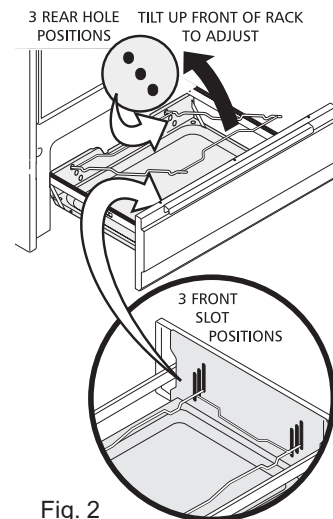

Fig. 2
4. Position rack by tilting front of rack and pulling rack out from locating holes in rear of broiler drawer. Reposition back of rack in the desired locating holds and allow front of rack to slide down into the corresponding slots in front of broiler drawer (See Fig. 2).